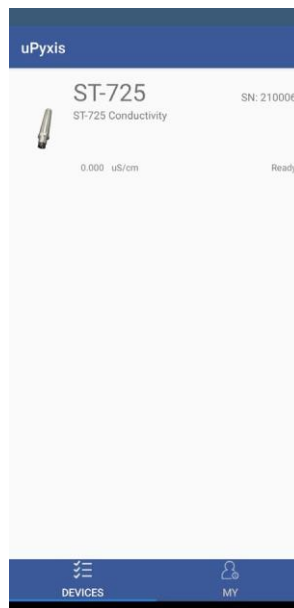

Figure 8.
3. If the connection is successful, the ST-722, ST-724, ST-725 and ST-728 and its Serial Number (SN) will be displayed (Figure 8).